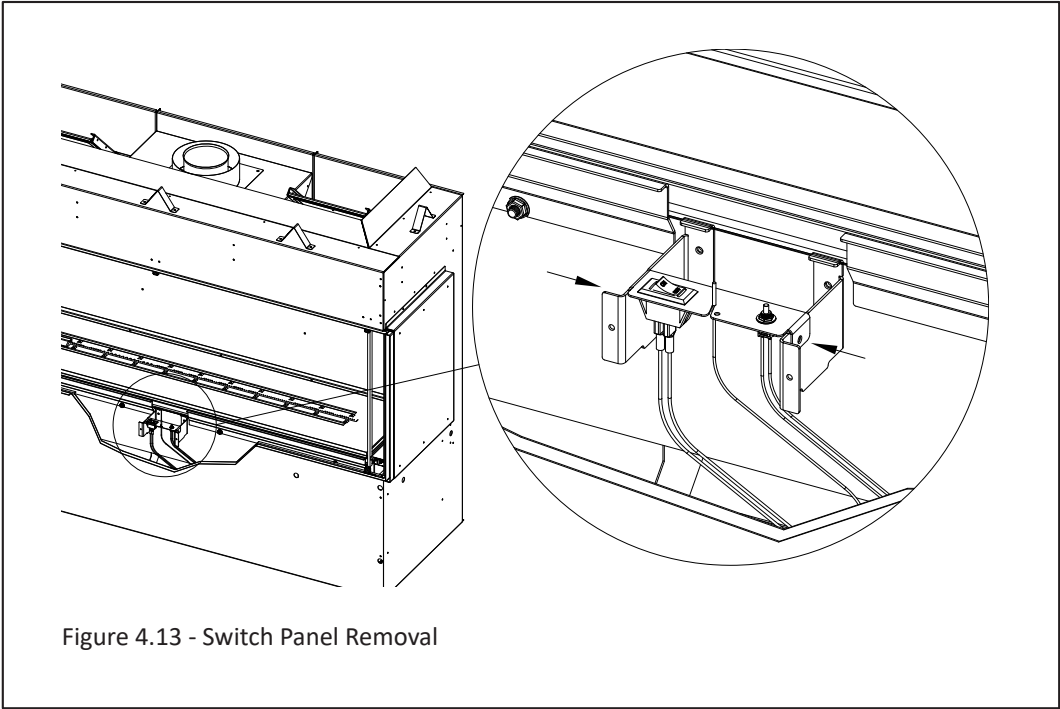

Figure 4.13 - Switch Panel Removal
3. Remove the (2) sheet metal screws that secure the switch panel. Lift this panel off its support bracket and locate the slits in the control module brackets. Slide the switch panel into these openings to secure it during control board removal. Figure 4.13 and 4.14.